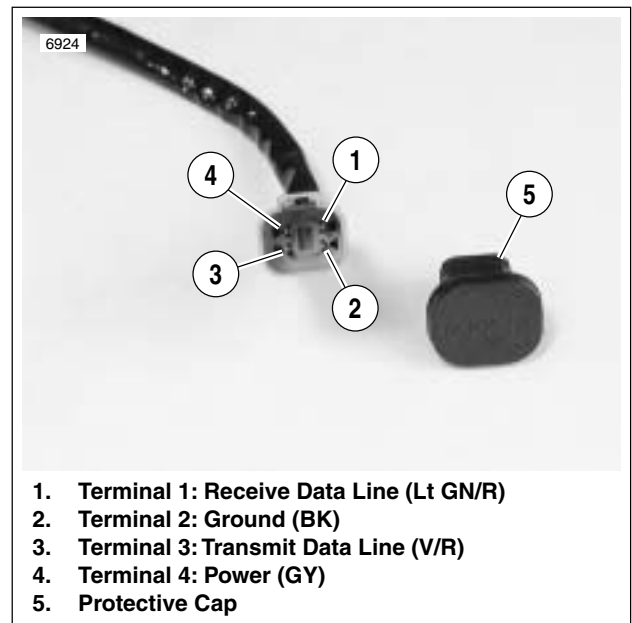

Figure 4-11. Installing Diagnostic Test Wire
- b. See Figure 4-11. Install diagnostic test wire across Terminal 1 and Terminal 2 on the data link connector [91A].
- See **Figure 4-11**. If Scanalyzer reads "No Response" with the ignition key switch turned ON (engine stop switch at RUN with the engine off), check serial receive data wire for an open or short to ground between data link Terminal 1 (Lt GN/R wire) and ECM.